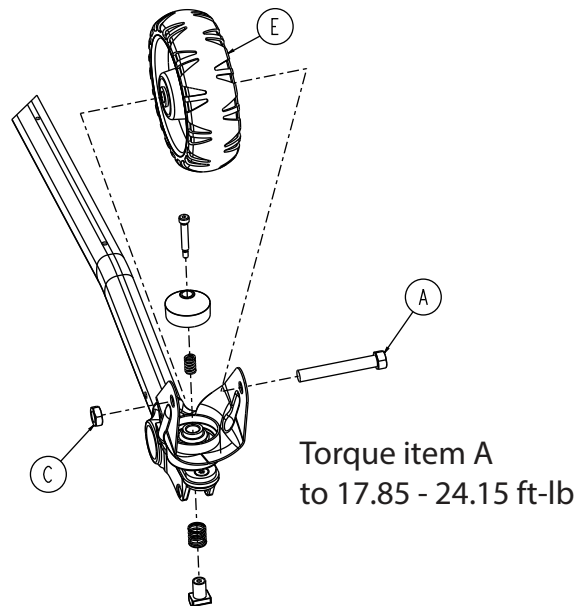

Figure 65 – Transport wheel components
4. Using a ratchet, 11/16" socket wrench, and 5/8" combination wrench, remove the hex head cap screw (A) and toplock hex thin nut (C) that secure the 6 inch molded wheel assembly (E) to the caster horn (Figure 65). Remove and discard the wheel. Save the screw and nut.